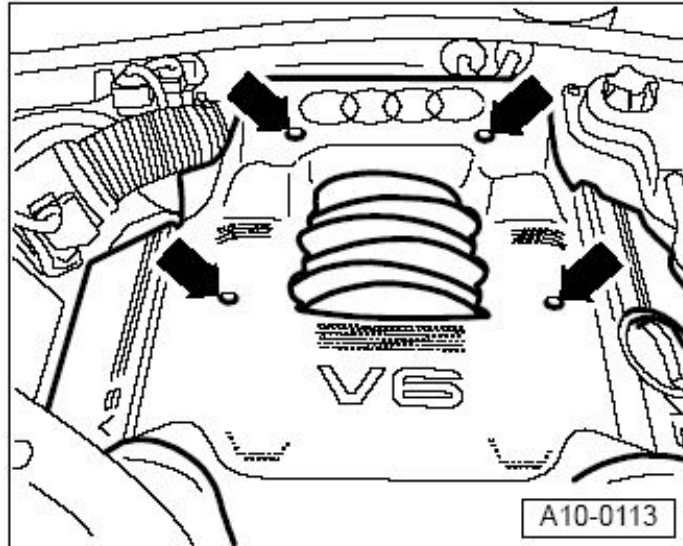

Figure 1. The locations of the screws.
2. Turn screws (Figure 1) and remove engine cover.